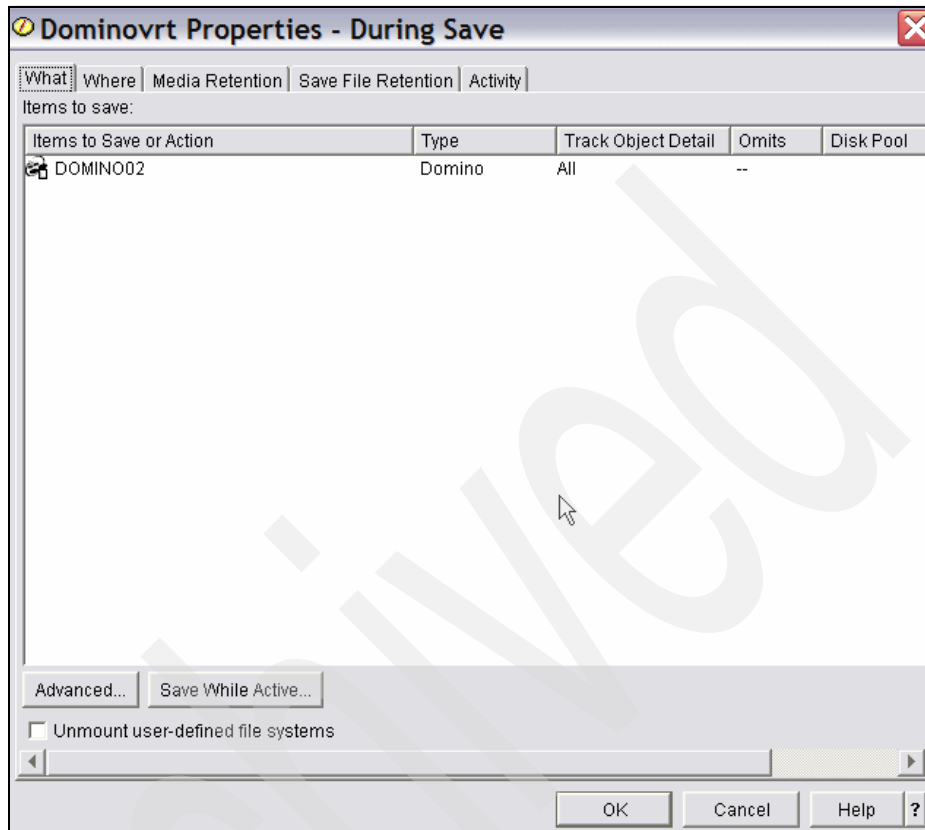

Figure 5-60 BRMS move policy change, During - What tab
6. In the During Save window shown in Figure 5-60 on page 246, click the **What** tab, make sure that no user defined file systems are unmounted, and then click the **Where** tab.